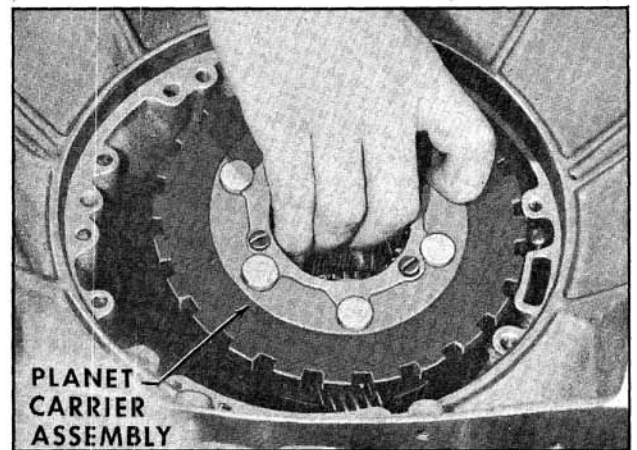

Fig. 6-498 Installing Planet Carrier
3. Install planetary gear set into case. (Fig. 6-498)